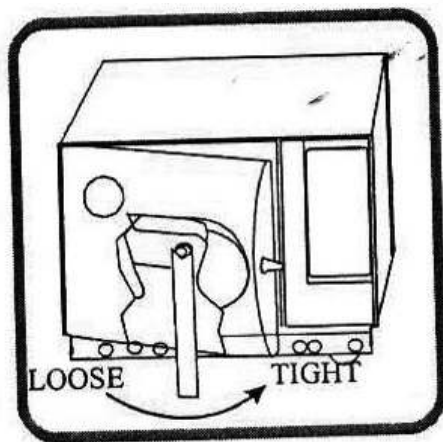
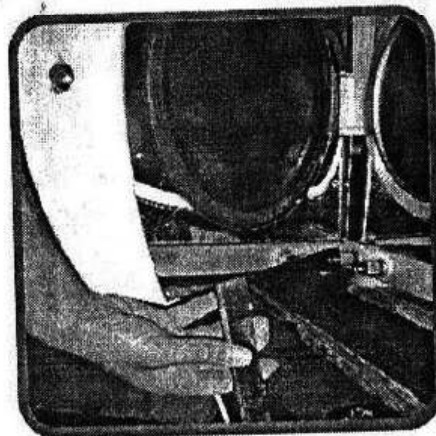

Fig 6-1
Fig 6-2
6.2 Insert the spanner in the gap beneath the plastic cover; use the spanner to lock on the adjusting nut (Fig 6-2). Turn the nut counter clockwise as the figure below (Fig 6-1). This will tighten the sealing plate.